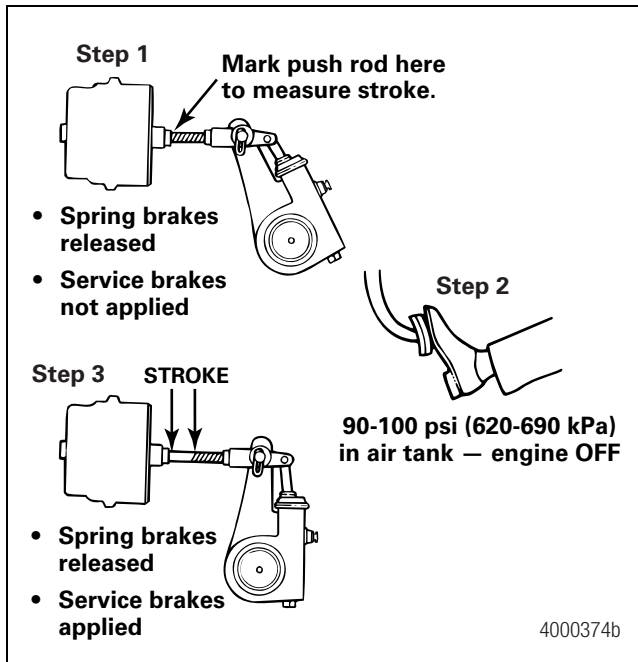

Figure 7.20
- With the brakes released, mark the push rod where it exits the chamber. Measure and record the distance. Have another person apply and hold the brakes on full application. Figure 7.20. Hold the ruler parallel to the push rod and measure as carefully as possible. A measurement error can affect CVSA re-adjustment limits. CVSA states that "any brake 1/4-inch or more past the re-adjustment limit, or any two brakes less than 1/4-inch beyond the re-adjustment limit, will be cause for rejection."
- Measure the push rod travel or adjusted chamber stroke from where the push rod exits the brake chamber to your mark on the push rod. Measure and record the distance. Figure 7.20.